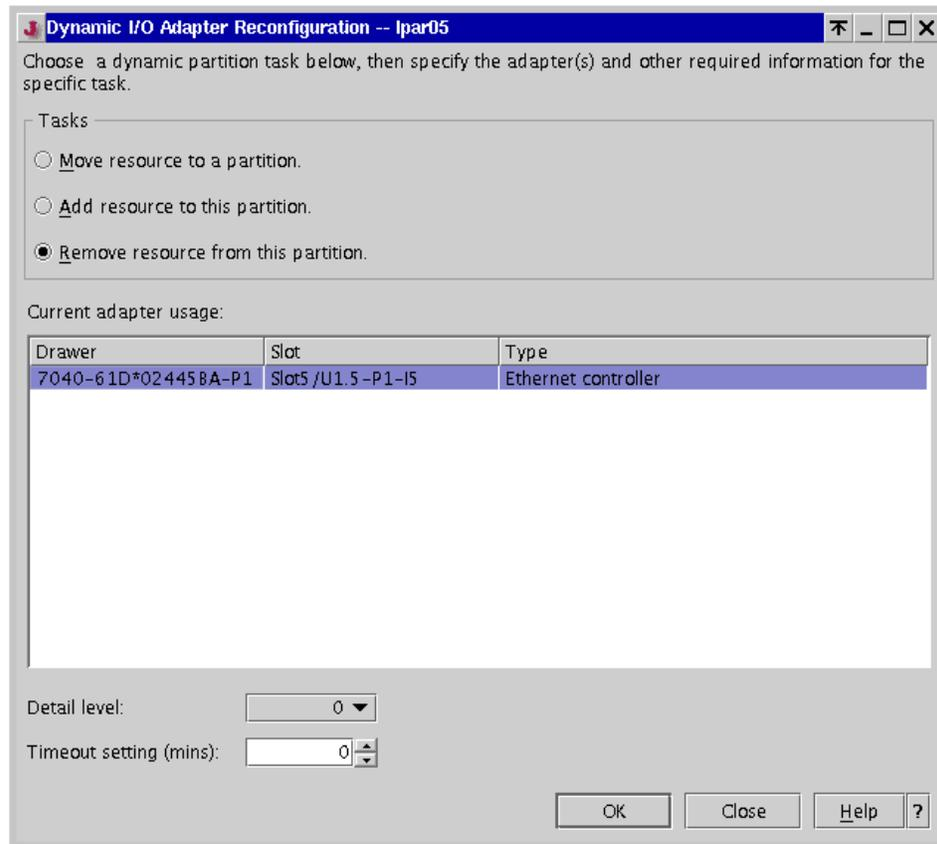

Figure 8-10 Dynamic removal of an I/O slot from a partition
8. The Dynamic I/O Adapter Reconfiguration window opens. Select **Remove resource from a partition**, as shown in Figure 8-10.